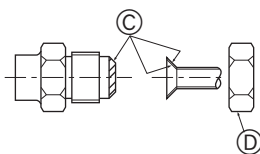

Fig. 5-6
### 5.5. Connecting pipes (Fig. 5-6)
① (Fig. 5-6)
② (Fig. 5-6)